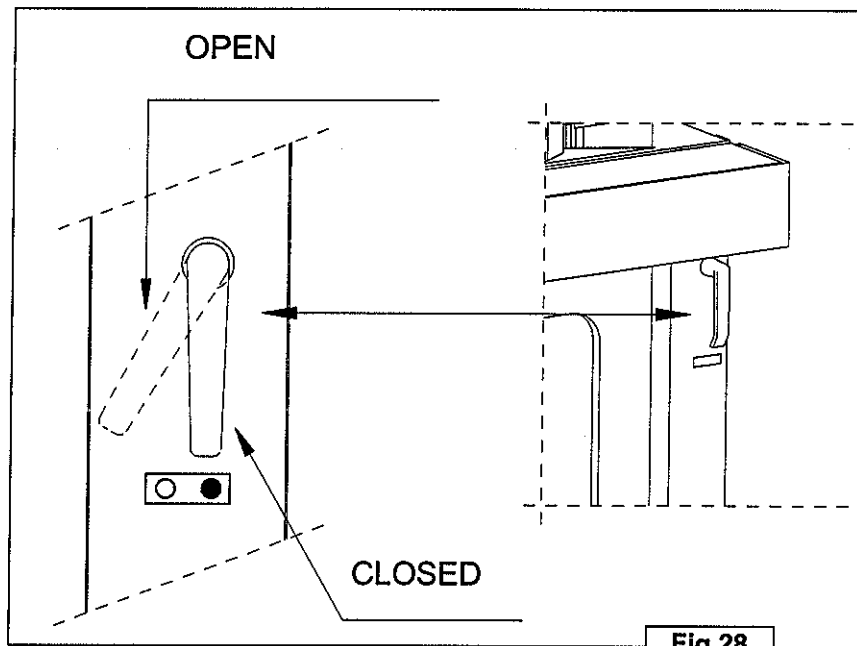

Fig.28
-Open the manual lock on the steam box (**Fig.28**), close and lock the door, switch on the steam suction  switch and the air recycle switch .